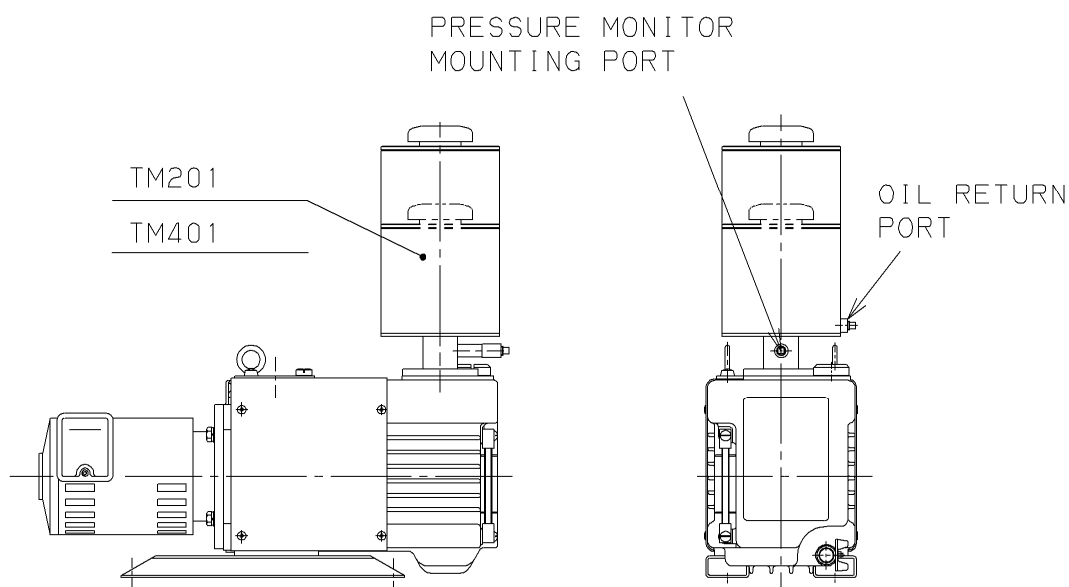

Fig.5 TM201/401 mounted in position
3.2 Mounting on Pump (Refer to Fig.5)